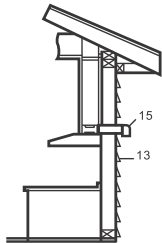
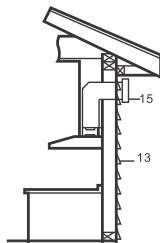
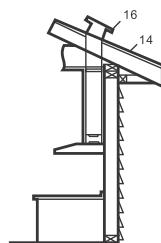

Fig.5
Fig.6
Fig.7
- Your venting system must vent to the outdoors either horizontally through the back wall (13) or vertically through the roof (14). (refer to Fig. 5/ Fig. 6/ Fig. 7).
- Cap the exterior of the duct with a wall cap (15) or roof cap (16). Never use (4 in.) laundry-type wall caps. Use caulking to seal exterior wall or roof opening around the cap.